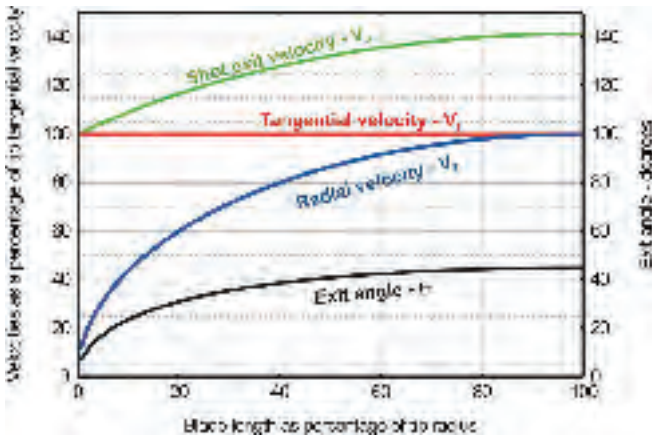

Fig.5 Effects of blade/radius ratio on induced velocities and exit angle.
ratios within a range of 30 to 70. The ratio for a particular machine/wheel affects both the shot's exit velocity, V_s , and the exit angle, θ . Fig.5 illustrates the effects of aspect ratio on shot velocity components and exit angle. The curves were derived by plotting equations (4), (8), (10) and (12) against aspect ratio. Within the aspect ratio range of 30 to 70 the thrown shot velocity is predicted to vary from about 123 to 138% of the tangential velocity. The corresponding exit angle range is from 36 to 44°.